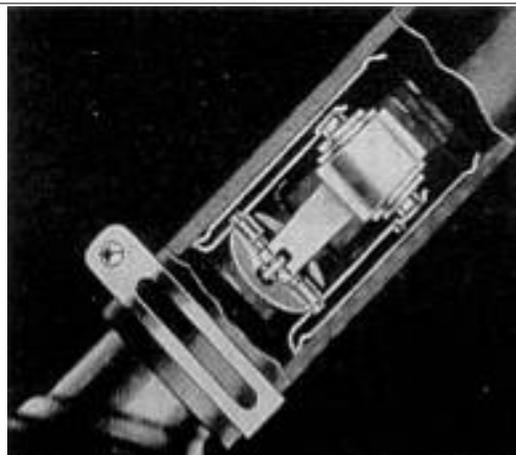

Fig. F041 - Cooling system thermostat on models 2N-8N-9N.
49. A thermostat is located in the upper radiator hose. Thermostat starts to open at approximately 160 degrees and is fully open at approximately 195 degrees Fahrenheit. See Fig. F041.